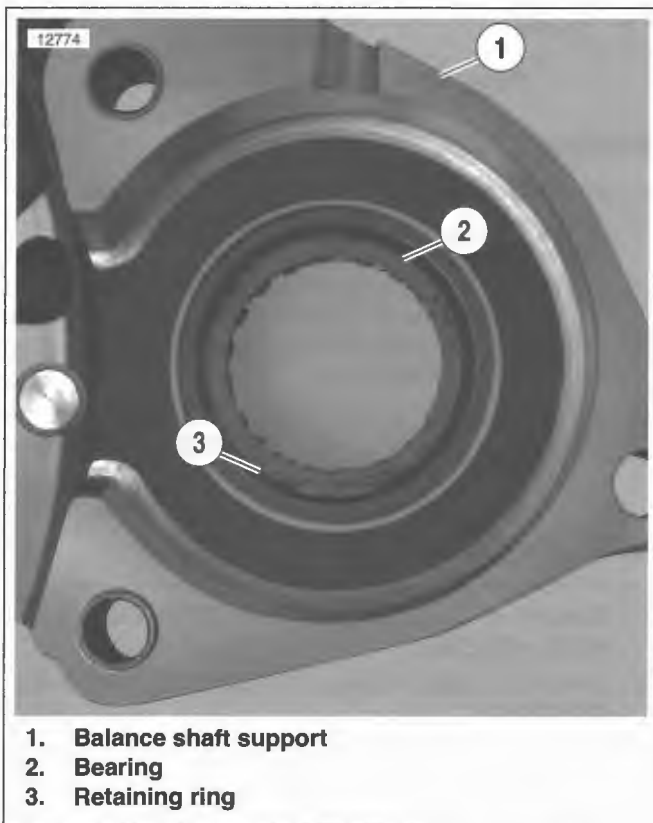
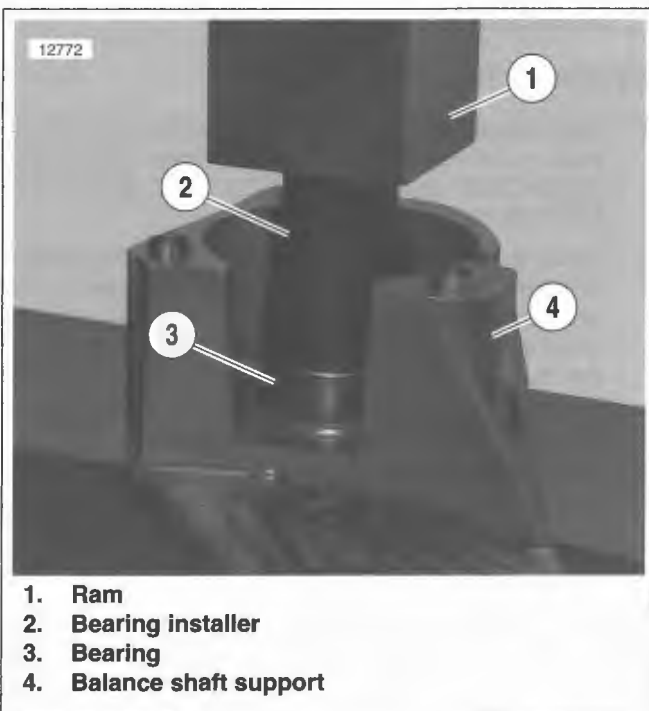

Figure 3-154. Balance Shaft Support Bearing
Figure 3-156. Installing Bearing In Shaft Support
2. See Figure 3-154. Remove retaining ring (3)
1. See Figure 3-156. Place balance shaft support (4) upside down on a suitable support.
2. Set bearing on housing with letters on bearing facing up. Place bearing installer (2) over bearing (3).
3. Center installer under ram (1) of press. Slowly lower ram to seat bearing until it fits flush against support.
4. See Figure 3-154. Install a **new** retaining ring (3).